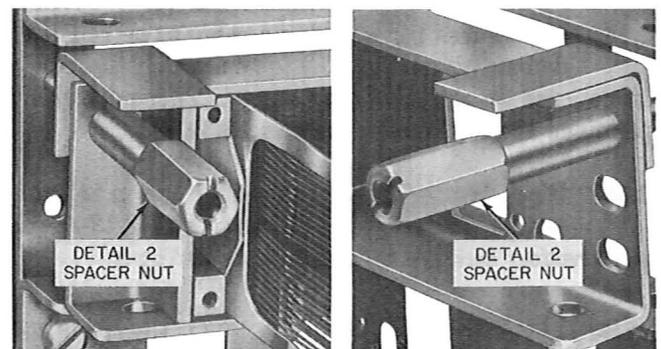

Fig. 14—Detail 2 Spacer Nuts in Place
- (g) Screw the Detail 2 spacer nuts onto the Detail 4 studs at both ends of the mounting plate and tighten. See Fig. 14.